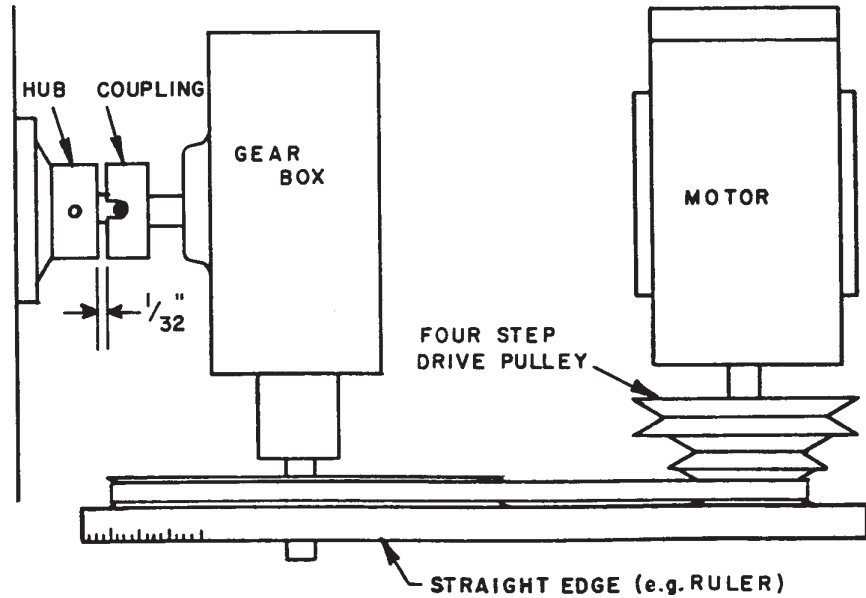

Figure 4.2
Align the gear box so the following conditions exist. (Refer to Figure 4.2.) Changes to the gear box alignment are made by loosening the four bolts that hold the gear box to the frame (gear box bracket). Slotted holes in the frame allow movement of the gear box.
- After the belt is tensioned and the motor is tightened, lay a straight edge on the pulley to check the alignment. (See Figure 4.2.) The edge of the motor pulley groove must line up with and be parallel to the edge of the gear box pulley. If it is necessary to move the pulley or motor to achieve this, recheck the belt tension.